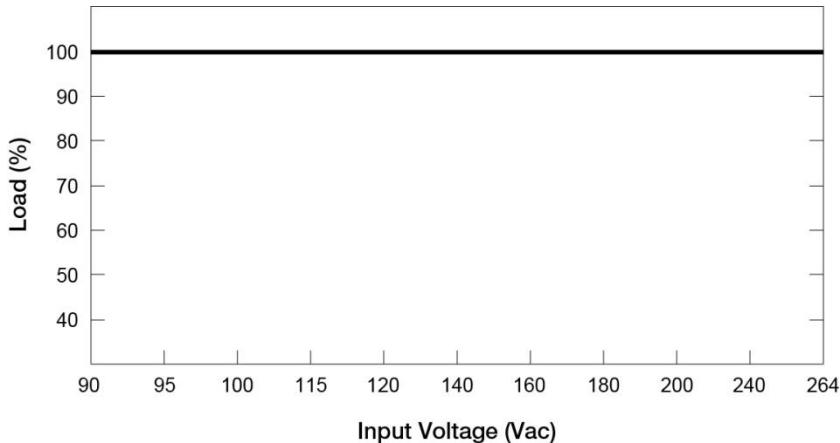

**Fig. 1 De-rating for Horizontal Mounting Orientation**
1. Power supply components may degrade, or be damaged, when the power supply is continuously used outside the shaded region, refer to the graph shown in Fig. 1.